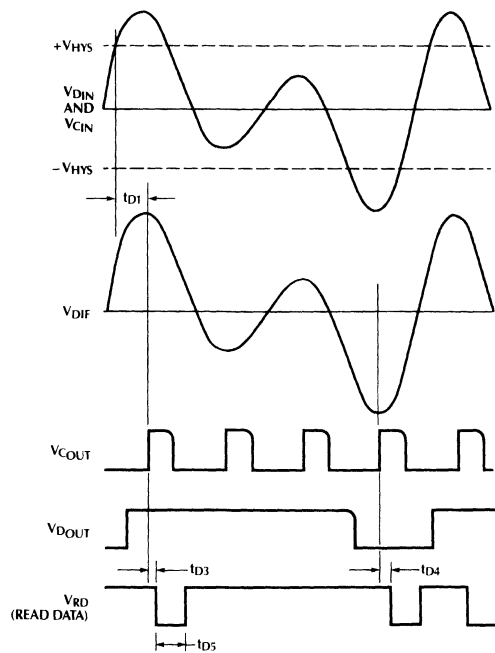

Figure 2. Output Logic Timing Diagram
**Output Data Characteristics** (Refer to Figure 2)